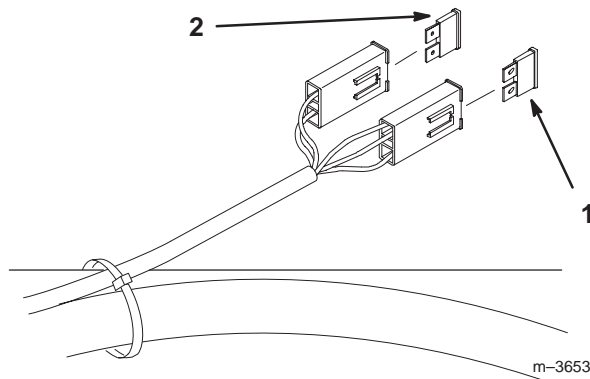

Figure 62
- Raise the seat to gain access to fuse holder (Fig. 62).
- To replace fuses pull out on the fuse to remove it (Fig. 62).